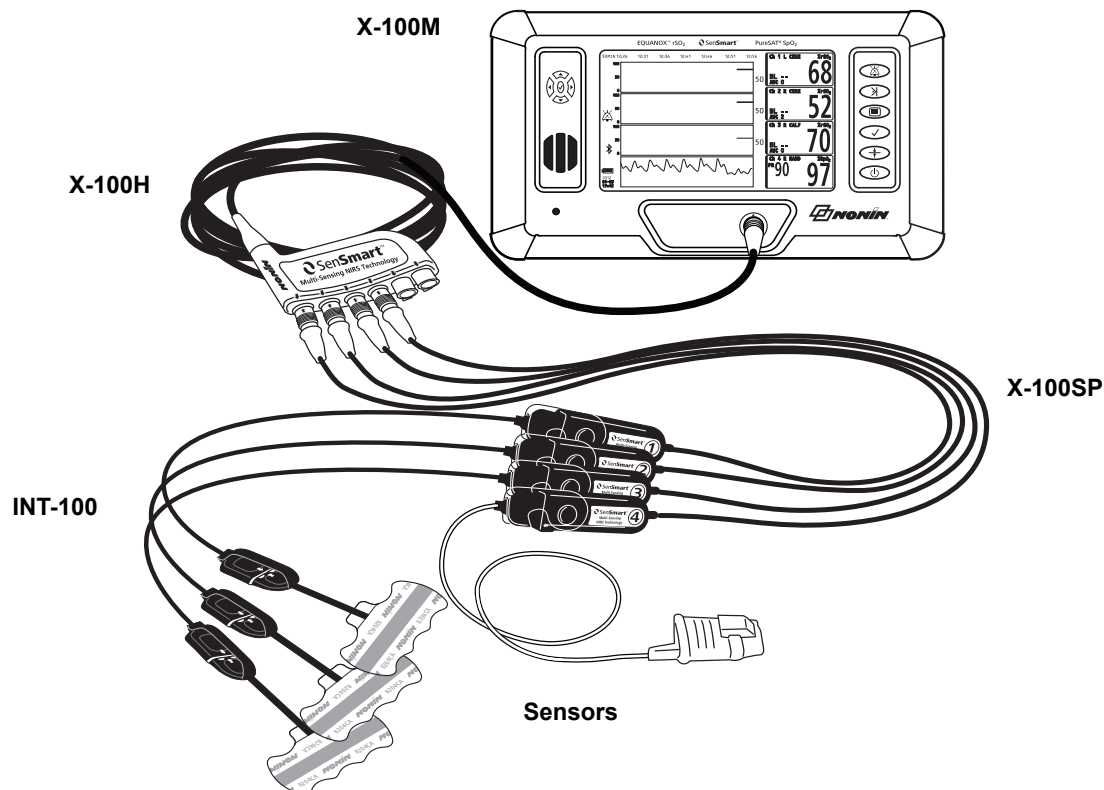

Figure 2. System Set Up (≥40 kg Sensors, INT-100, 4 Channels Connected)
- The example in figure 2 shows a system set up using regional sensors for patients weighing ≥ 40 kg. The 8204CA sensor connects to the X-100SP signal processor via the INT-100 intermediate cable. The 8100S(X) pulse oximetry sensor connects directly to the signal processor.